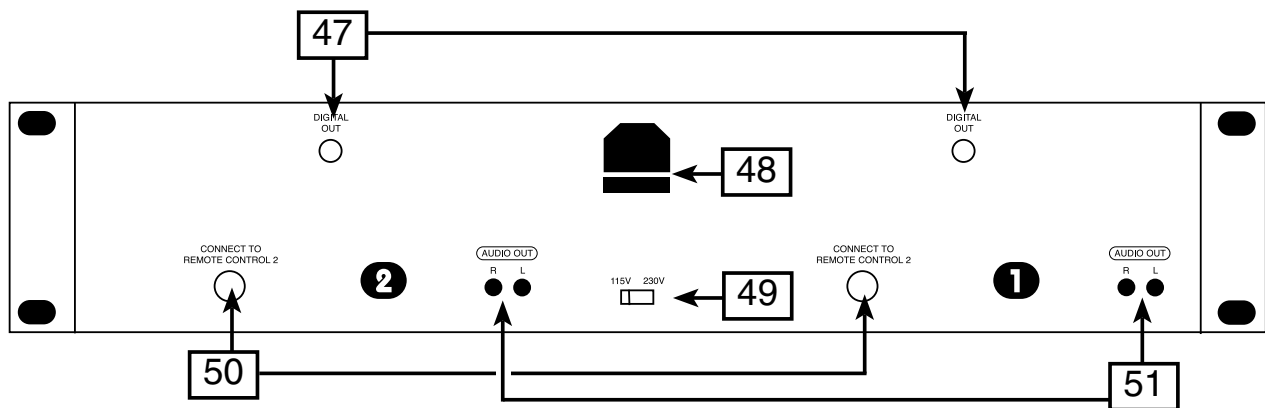

Fig. 5
C. MAIN UNIT REAR PANEL (Figure 5)